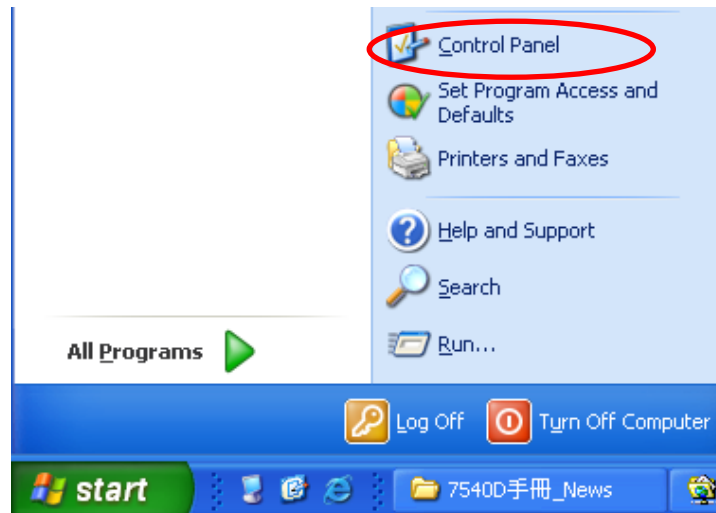

Figure 3-7: Select settings
**Step 1:** Click “Start” in the task bar, then click the “Control Panel” as shown in figure 3-7.